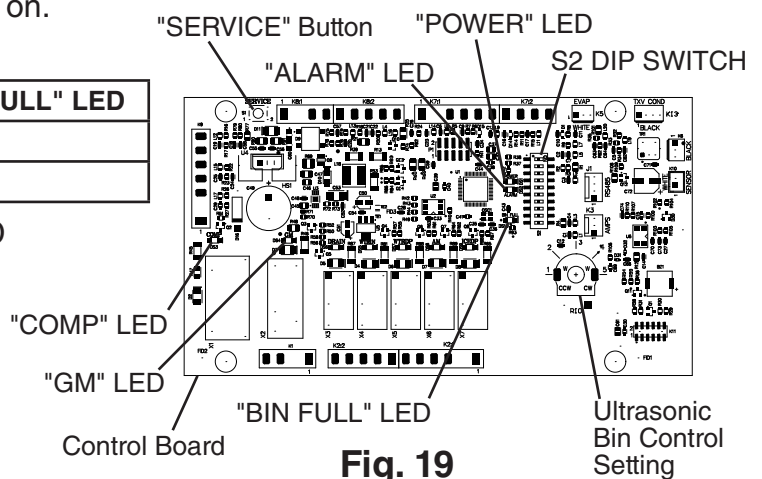

Fig. 19
- 5) Confirm the control board orange "BIN FULL" LED is off (bin empty). "POWER" LED is on. See Fig. 19.